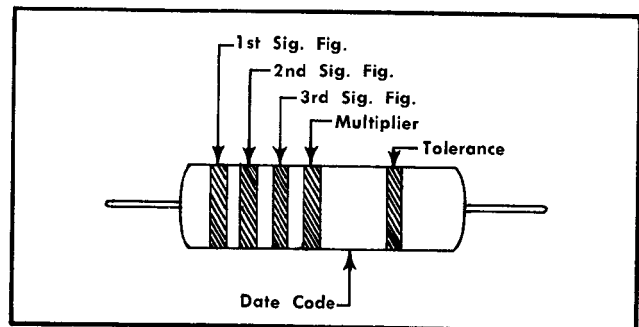

Fig. 4-5. Color-coding of metal-film resistors.
**Resistor Color-Code.** A number of precision metal-film resistors are used in this instrument. These resistors can be identified by their grey body color. If a metal-film resistor has a value indicated by three significant figures and a multiplier, it will be color-coded according to the EIA standard resistor color-code. If it has a value indicated by four significant figures and a multiplier, the value will be printed on the body of the resistor. For example, a 333 kΩ resistor will be color-coded, but a 333.5 kΩ resistor will have its value printed on the resistor body. The color-code sequence is shown in Fig. 4-5.